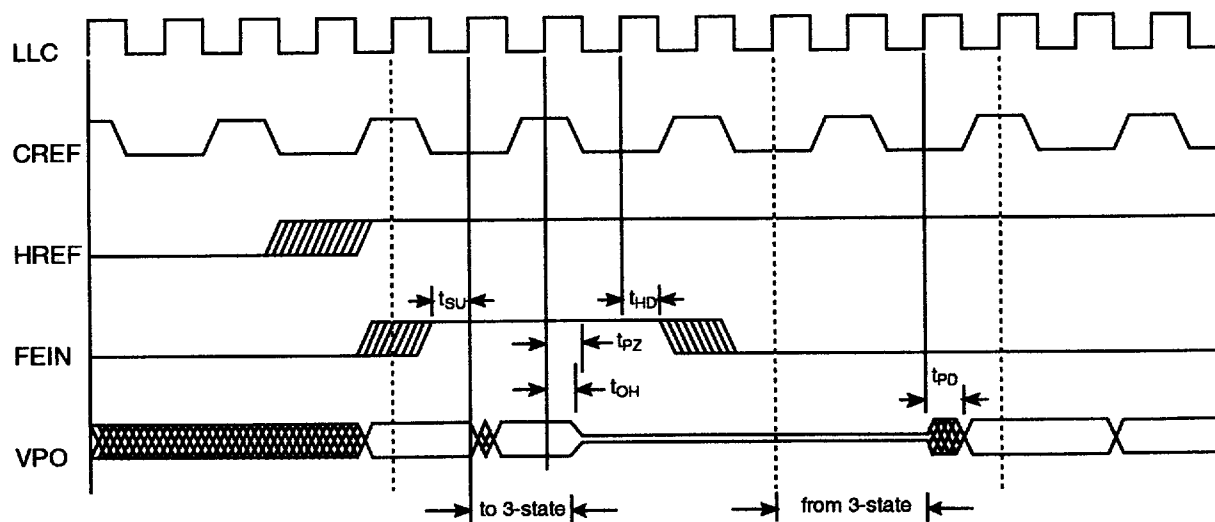

Fig.12 FEIN Timing
(1) explanation of the output formats see Tab. 8.
(2) for the FEIN timing of the VPO-Bus see Fig.12